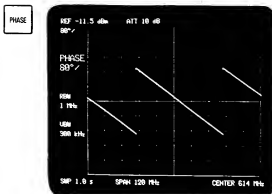

Fig. 6-1 Phase in rotation
- ① Set center frequency, frequency span, resolution bandwidth, sweep time, and other necessary conditions.
- ② Connect the TRACKING GENERATOR OUTPUT to the input of the device under test (amplifier or filter), and connect the output of the device under test to the INPUT of the analyzer. Activate the tracking generator.
- ③ Press the NORMAL key to measure the pass-band response of the device under test. According to the measurement result, select the appropriate T.G. LEVEL and INPUT ATT. level.
- ④ Then press the PHASE key to select the phase measurement mode. The display will present measurement range  $XX^{\circ}$  at its top left corner, and the indicator lamp just above the PHASE key will illuminate. In the Phase Measurement mode press the SWEEP TIME key to manually select the appropriate sweep time (the AUTO mode is programmed for amplitude measurement).
- ⑤ For more precise phase measurement without the affect of phase error of the measuring system, disconnect the device under test from the measuring setup, then connect the input and output cables by using an inline plug adapter to check the phase response of the measuring system itself.
- ⑥ If phase rotation is observed as shown in Figure 6-1, press the kHz G.D. OFFSET key to activate the electrical length.